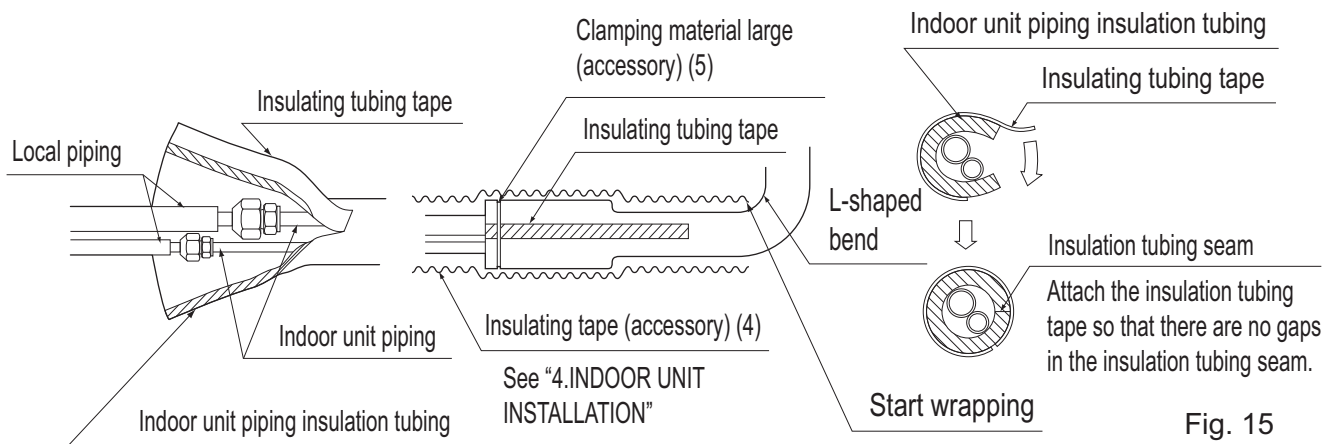

Fig. 15
- After checking for gas leaks, be sure to insulate the pipe connections using the supplementary piping insulation tubing and insulating tape (4). The insulating tape (4) should be wrapped from the L-shaped bend all the way to the end inside the unit. **(Refer to Fig. 15)**